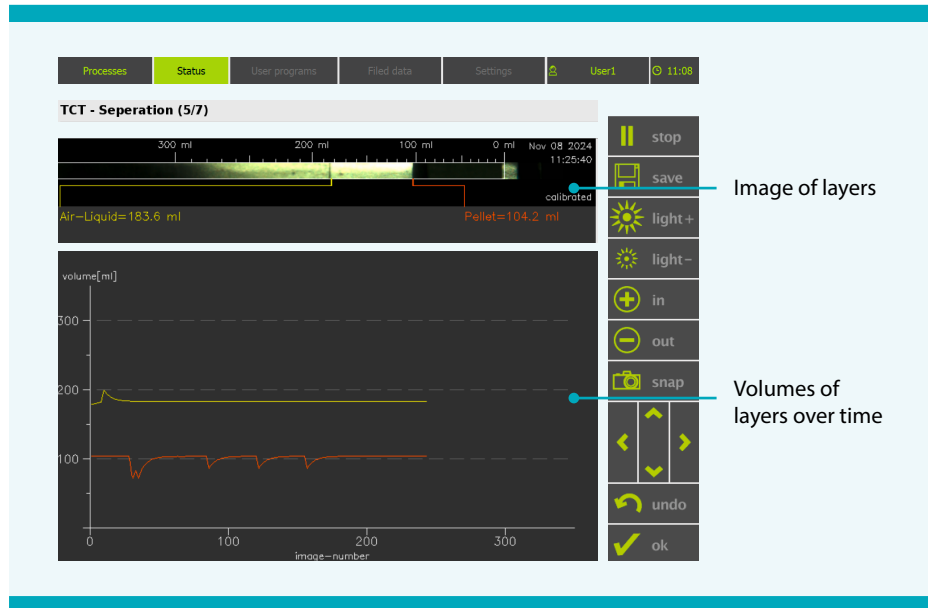

Figure 6.2: Overview of instrument status
- **Layer Detection Camera image:** This image is used to measure the volumes of the centrifugation fractions. It is only available in selected applications and only for selected applications and during the first volume adjustment after sample loading after sample loading (see Figure 6.2).
The different layers are automatically detected by the software. In Figure 6.2 red and orange bars mark the position of the layers within the image. A diagram below the image shows the recorded values for the volumes of the centrifugation fractions. The curves are shown in red and orange corresponding to the bars within the image (see Figure 6.2).